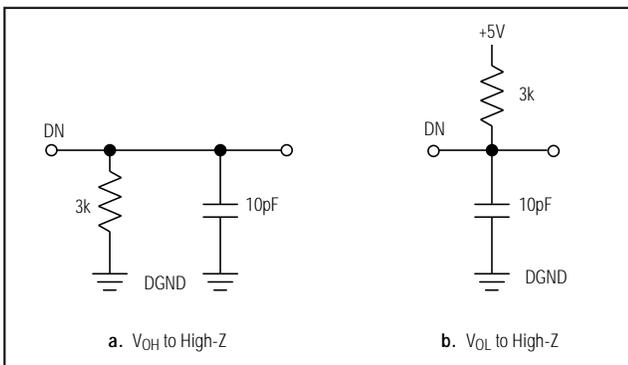

Figure 2. Load Circuits for Bus-Relinquish Time
- Note 16:**  $t_7$  is defined as the time required for the data lines to change 0.5V when loaded with the circuits of Figure 2.